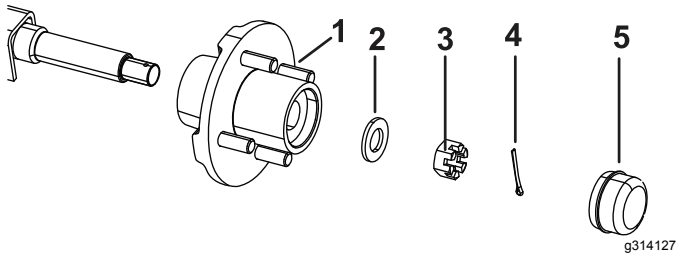

Figure 39
3. Remove the dust cap, cotter pin, nut retainer, and washer from the hub assembly (Figure 39).